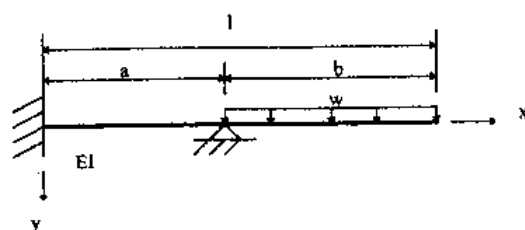

Fig. 3
3. For the statically indeterminate beam as shown in Fig. 3. Please find